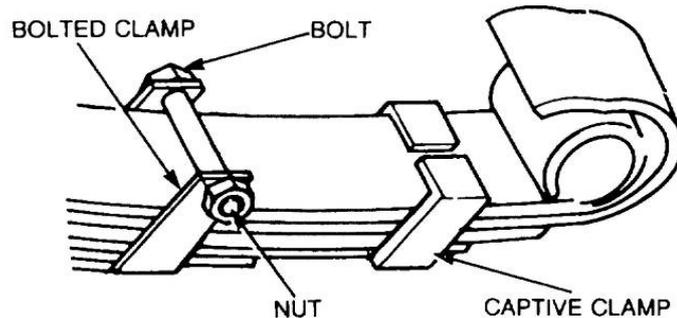

Figure 129 Removal of the Spring Clamps
- d.** Bend the two clamps, located towards the end of the spring, away sufficiently to allow for removal of the defective spring leaf (Figure 129).